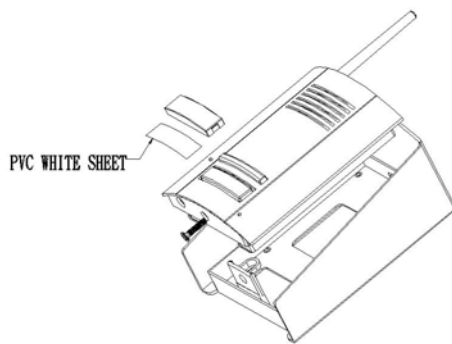

Fig. 8
- Step 4: Screwing out the screws between the audio box and flush-in bracket. (Fig. 8)